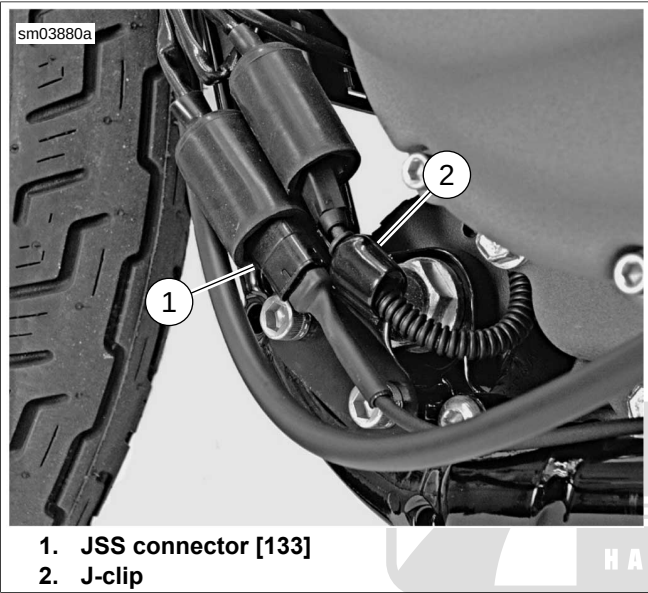

Figure 6-120. JSS Connector
2. See Figure 6-120. Unplug JSS harness connector [133] (1).